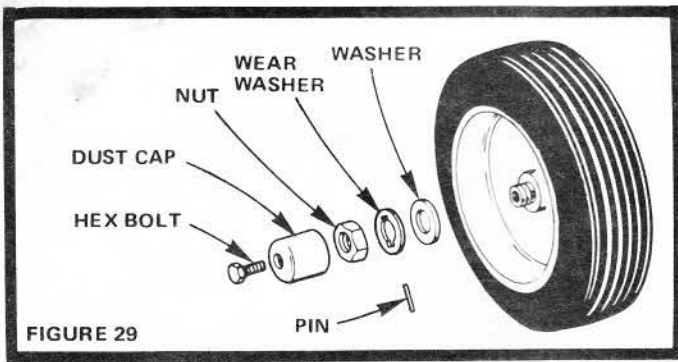

FIGURE 29
- d. Removing front wheel for tire repair (Fig. 29):